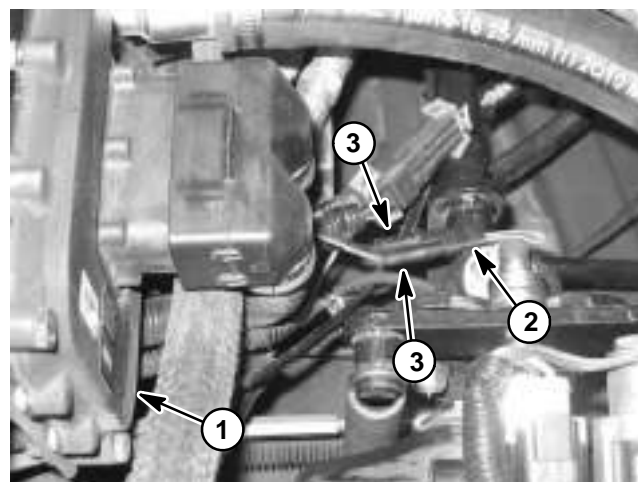

Figure 9
3. Locate diagnostic tether cap that connects the two (2) diagnostic shunt wires located under the operator seat (Fig. 9).